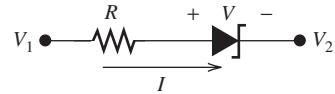
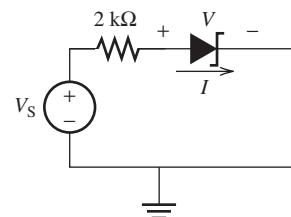

FIGURE 8.25 Circuit with a Zener diode.
FIGURE 8.26 Circuit for Example 8.7.
To explain the operation of a Zener diode, consider the circuit shown in Figure 8.25. Assuming a practical model, Table 8.2 summarizes the operation of the Zener diode. Observe that if the reverse voltage across the diode is more than V_z , the Zener diode will be equivalent to a constant voltage source with the value of $V = -V_z$.
For the circuit shown in Figure 8.26, the Zener diode has $V_z = 3.6$ V. Find I and V when:
- a. Refer to Figure 8.25, $V_S = -1$ V means $-3.6 \text{ V} < V_1 - V_2 < 0 \text{ V}$. Therefore, the diode is reverse biased, it is OFF, and the current flowing through it is $I = 0$. Applying KVL to Figure 8.26, the voltage across the diode corresponds to: